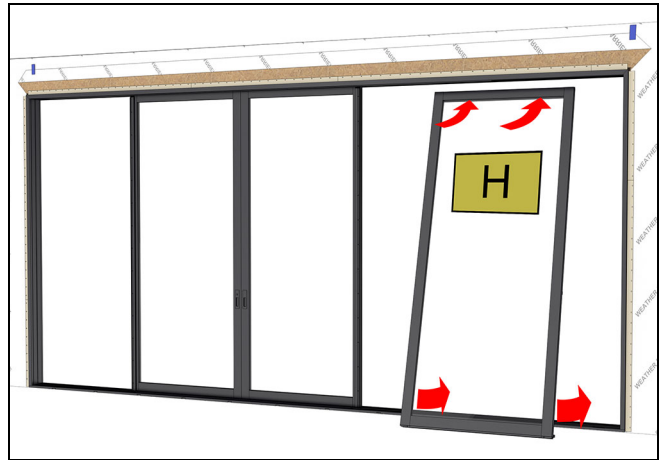
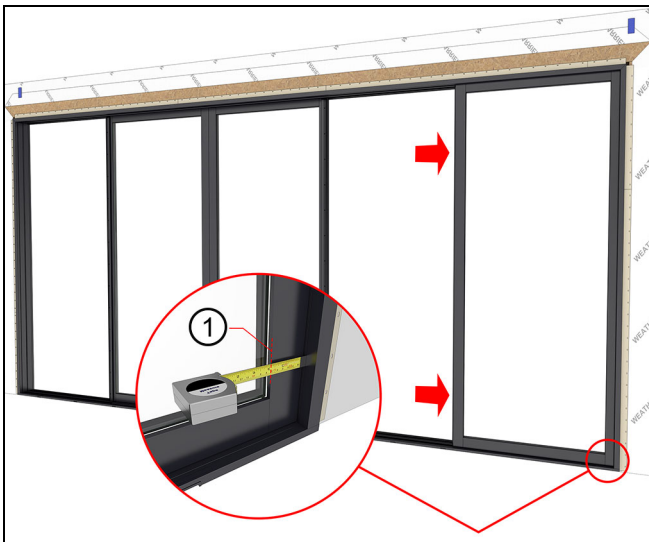

Figure 133
Figure 134
5. Install the (H) stationary panel on the exterior track, slide the panel tight against the stationary jamb. Measure from the jamb to the edge of the daylight opening. This should be about 2 5/8". See Figure 133 and Figure 134.